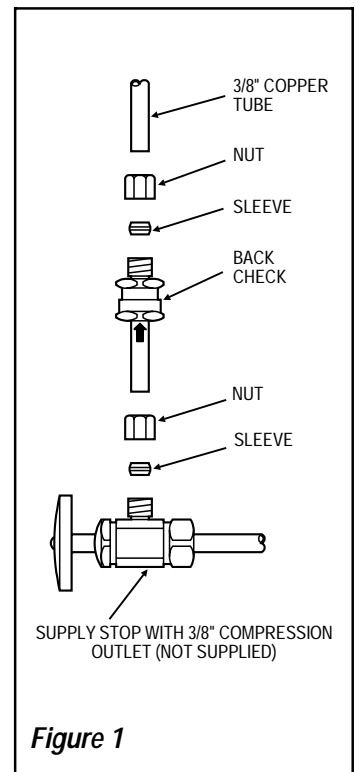

Figure 1
The Sloan EBF-615 and EBF-650 battery powered, sensor operated faucets can be supplied with two back checks. When connecting the faucet to a hot and cold water supply, two back checks are required as shown in Figure 1. Water temperature can be controlled by adjusting the supply stops. When connecting the faucet to a single line water supply or a pre-tempered water supply, a back check is not required.
Step 1 — Install Back Checks (Option) (Figure 1)